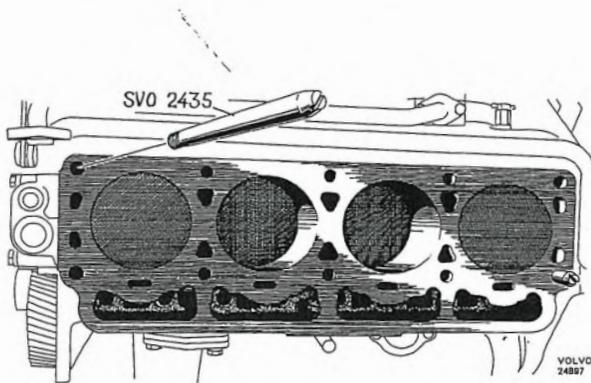

Fig. 2-20. Guide pins for fitting cylinder head
21. Screw the guide pins 2435 into the block, one in the front right-hand hole and the other in the left-hand rear hole, see Fig. 2-20. Install a new cylinder head gasket with the "TOP" upwards (wide edge). Install a new inlet duct gasket and new sealing rings for the water pump. Fit the cylinder head. Screw out the guide pins and fit